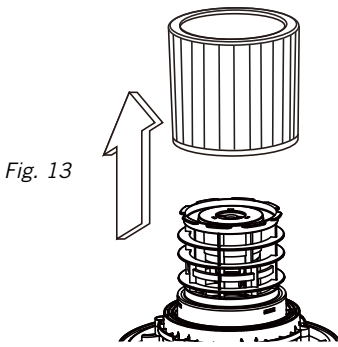

Fig. 13
20. With the removed power head in an upside down position, carefully remove the cartridge filter 18 from the filter cage. **Fig. 13.**